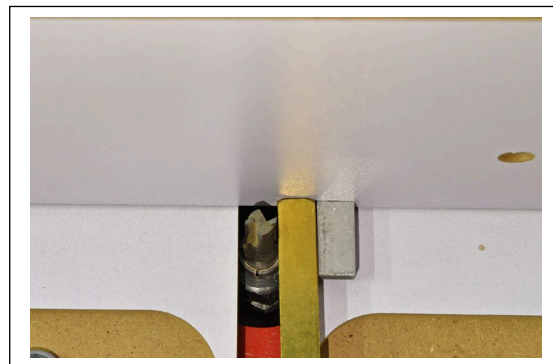

fig. 8
8. Use a set up bar of the same diameter as your box joint / router bit to adjust the final position of the Box Joint Fixture on the Multiform Crosscut Sled fence (see fig 8). The set up bar should fit snugly between the bit and the guide pin. Make sure the carbide cutting blade is at the widest point perpendicular to the vertical fence to be sure you have the gap between the router bit and guide pin the exact width as your box joint size.